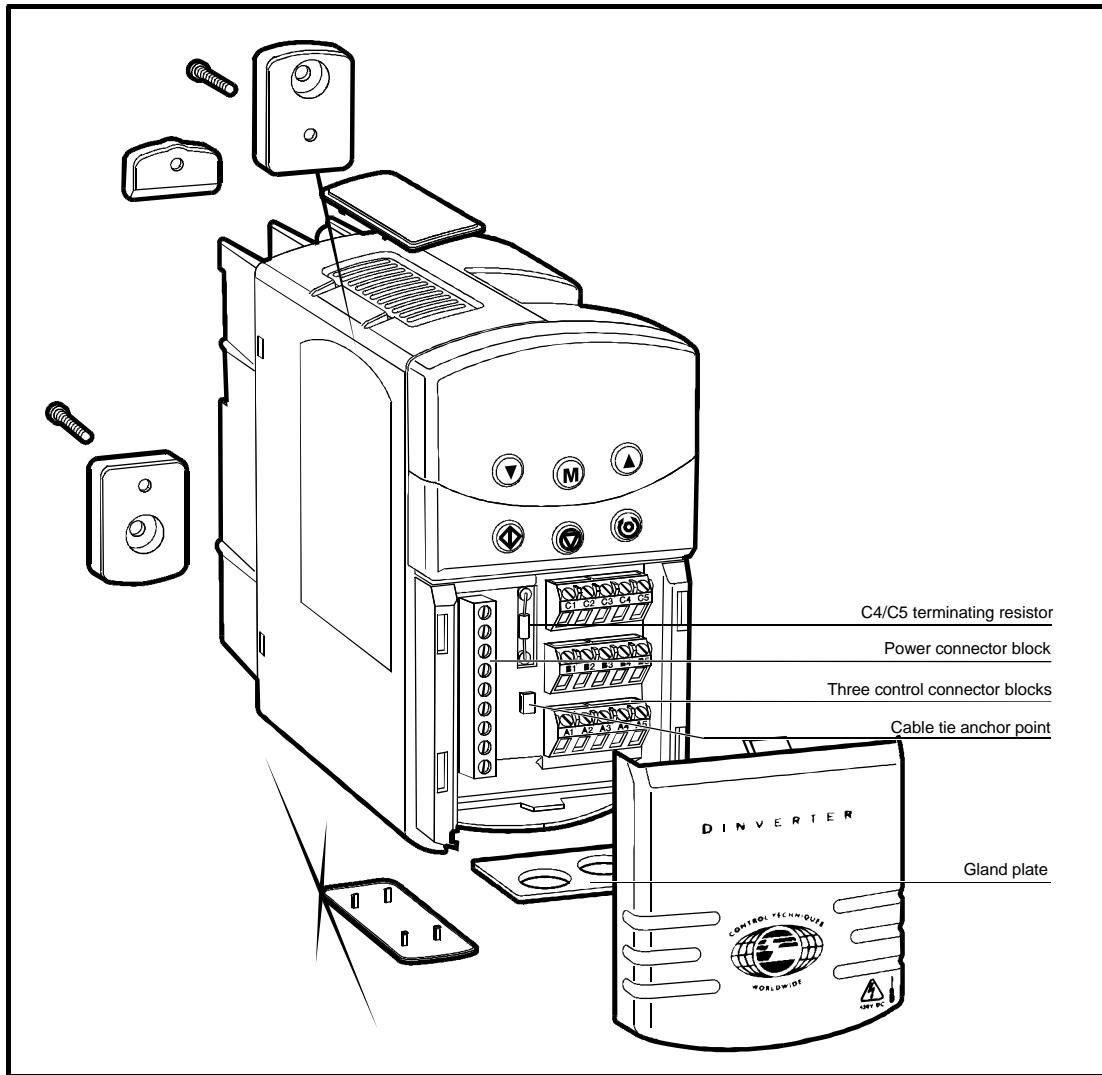

Fig. 4.1 Diverter A parts supplied showing terminal chamber
- 1 User Guide (not shown in Fig. 4.1 below)
(For removing the terminal cover as shown in Fig. 4.1 please refer to Section 4.6.1 below.)